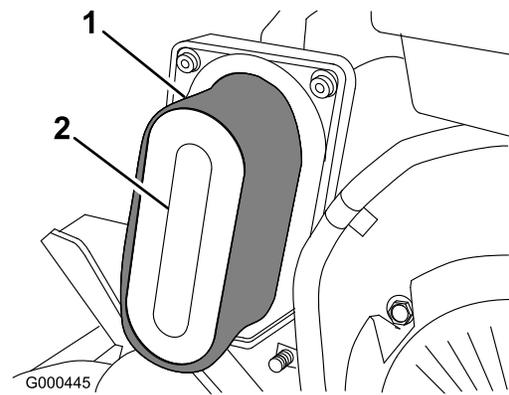

Figure 28
3. If foam element is dirty, remove it from paper element (Figure 28). Clean thoroughly.